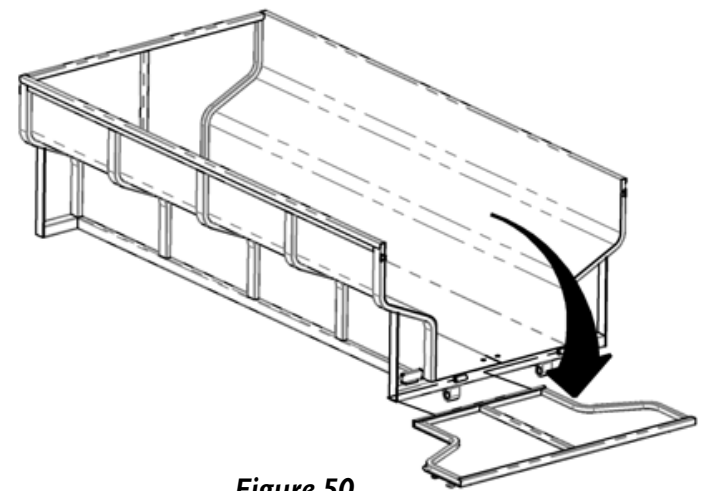

Figure 50
**NOTE:** To remove the Tailgate(s) release the Latches on the Tailgate by pulling the Red Handles of the Latches away from the Tailgate. Pivot the Tailgate down and then push the Tailgate to the Left to uncouple the Hinge (**Figure 50**).